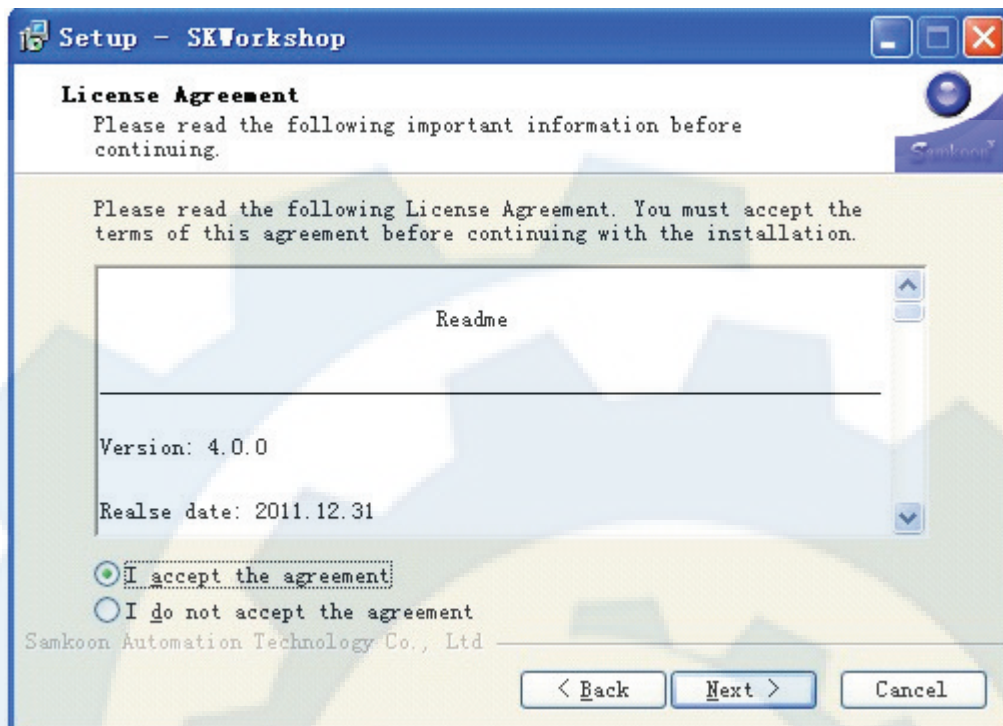

Figure 2-4: Agreement accepting page
- In the license agreement dialog, please select whether to accept the software clauses, and click “next”. See Figure 2-4: